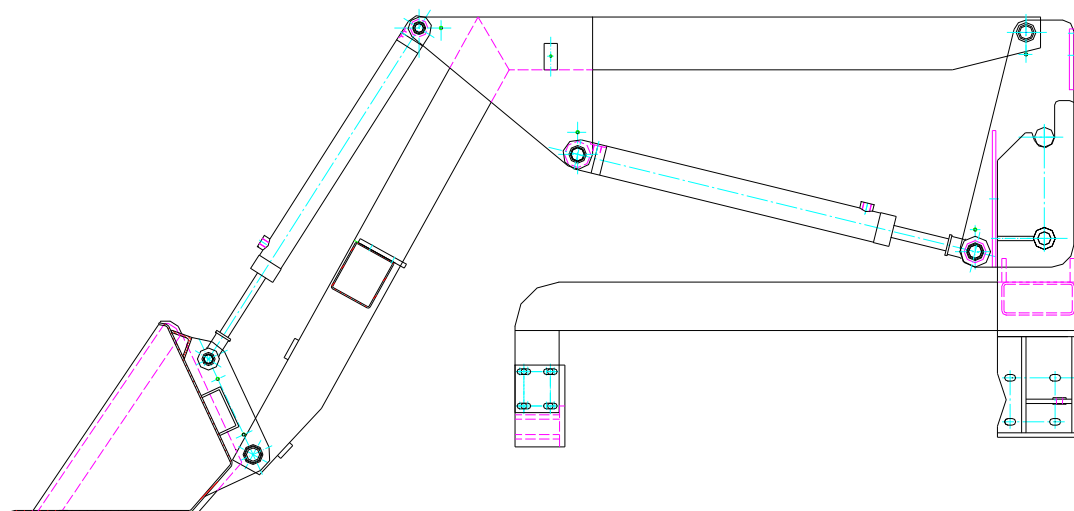

Fig.2-3 Model A (quick-link between lift arm and vertical column)
2.1.2 Model A (As shown in Fig.2-3)